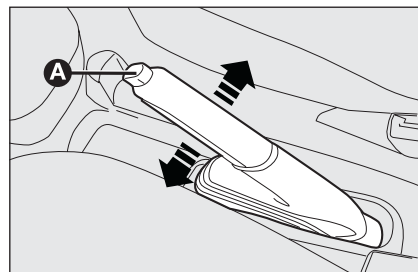

fig. 1
- ☐ slightly lift the handbrake and press the release button **A**-fig. 1;
- ☐ hold button **A** pressed and lower the lever. Warning light (1) on the instrument panel will go out.